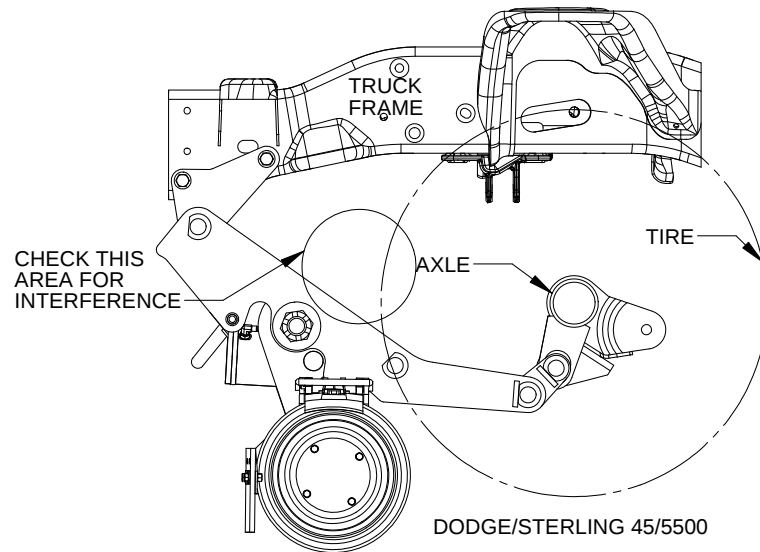

Figure 4.5.3.B Dodge/Sterling 45/5500 Clearance Envelope
1. Check for truck frame, spring, steering gear or other truck component interference with the Railgear, particularly the long arms. See CLEARANCE NOTE and Figure 4.5.3.B.